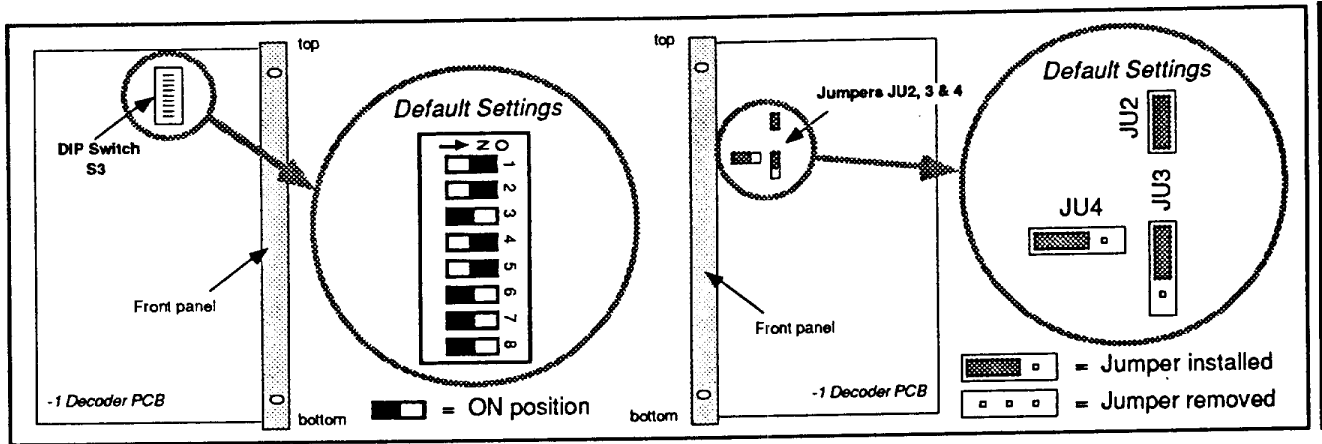

Figure 2-1. Decoder Box DIP Switch and Jumper Locations
- ① DIP switch S3 and the jumpers are not accessible from the outside. Follow the steps below to open the decoder box.
- d. Gently pull the front panel and the attached boards from the encoder housing. Facing the front panel, the DIP switches are on the left and the jumpers are on the right (see Figure 2-1).